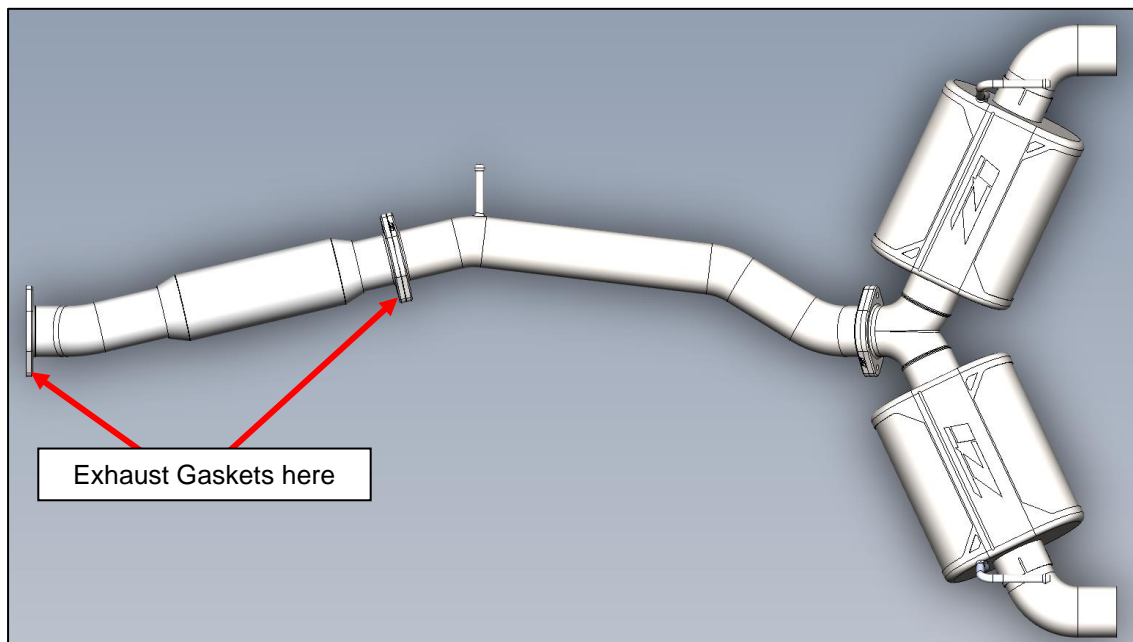

Figure 7
9. Locate the Resonator, (2) two Exhaust Gaskets, (4) four M10 Bolts and (4) four M10 Nuts. Position the Resonator as shown with an Exhaust Gasket between each flange. Loosely secure with the M10 Hardware at each flange. *Figure 7.*